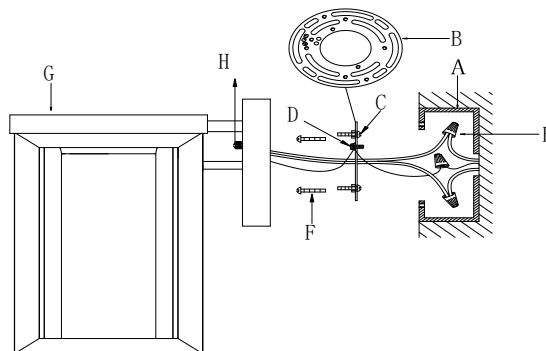

Fig.2
CONNECTING THE WIRES (Fig. 2)
5. Connect the electrical wires as shown in Fig.2. Making sure that all wire connectors are secured. If your outlet box has a ground wire (green or bare copper), connect the fixture's ground wire to it. Otherwise, connect the fixture's ground wire directly to the mounting plate (B) using the green screw (D) provided.